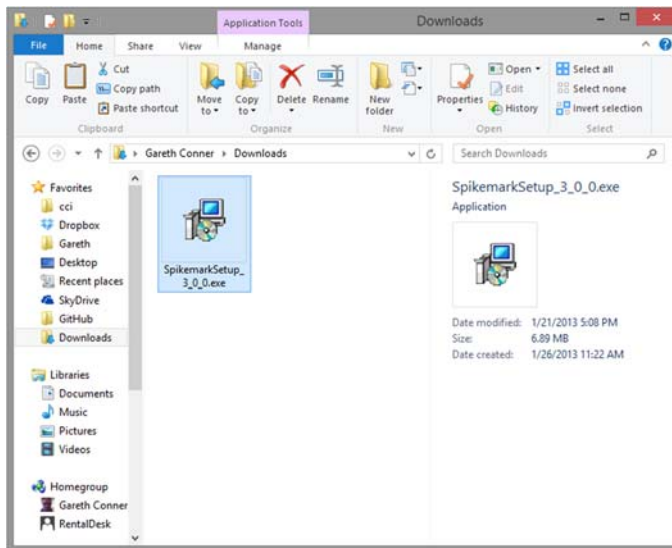

Figure 1
2. Double-click the **SpikemarkSetup** file (Figure 1).